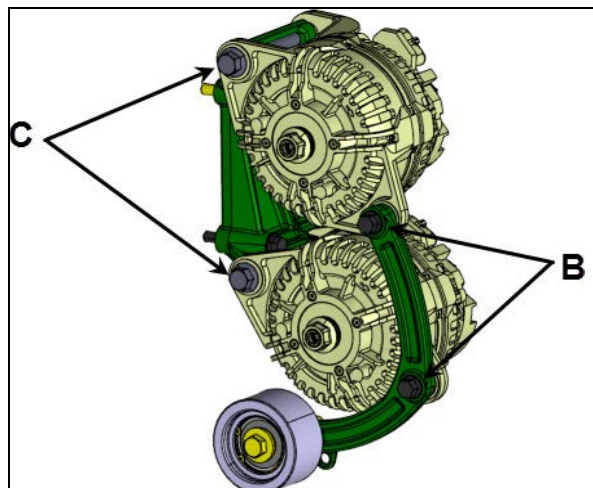

FIGURE 23
11. In order to assure proper installation, it is important to tighten the alternator mounting bolts in the following proper sequence. Use Loctite 243 blue on threads (**FIGURE 23**).